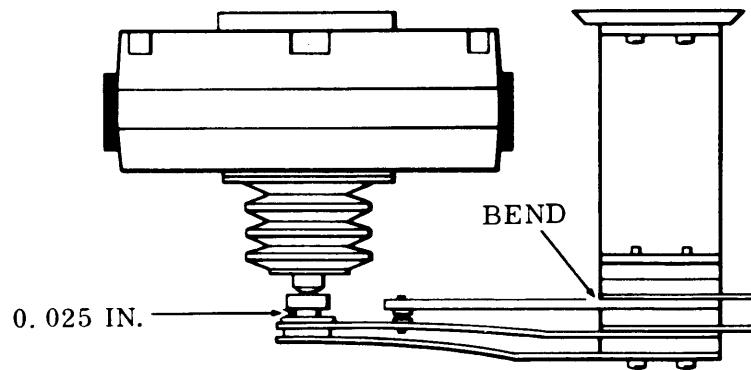

FIGURE 5-15. PACK-ON SWITCH-TO-SPINDLE CLEARANCE
7. Install a disc pack on the spindle and check clearance between the bottom of the shoulder of the carbon plug and the plastic bushing on the middle leaf of the pack-on switch (Figure 5-15). If necessary, deform (bend) the upper contact arm of the switch so that the clearance is 0.025 ± 0.010 inches.